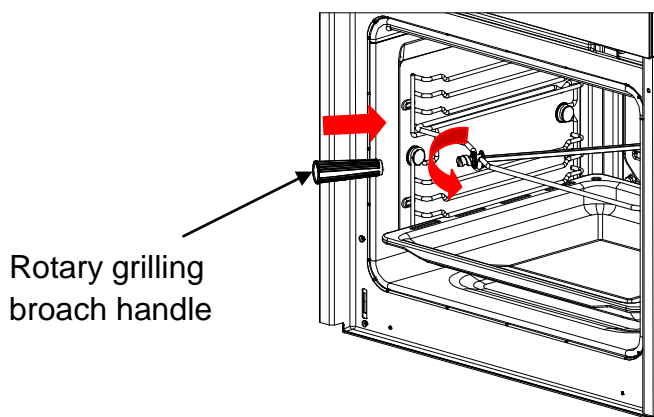

Figure 7
6. When the barbecue is complete, open the oven door, turn rotary grilling broach handle to remove food (figure 7);Screw down the handle from the broach.